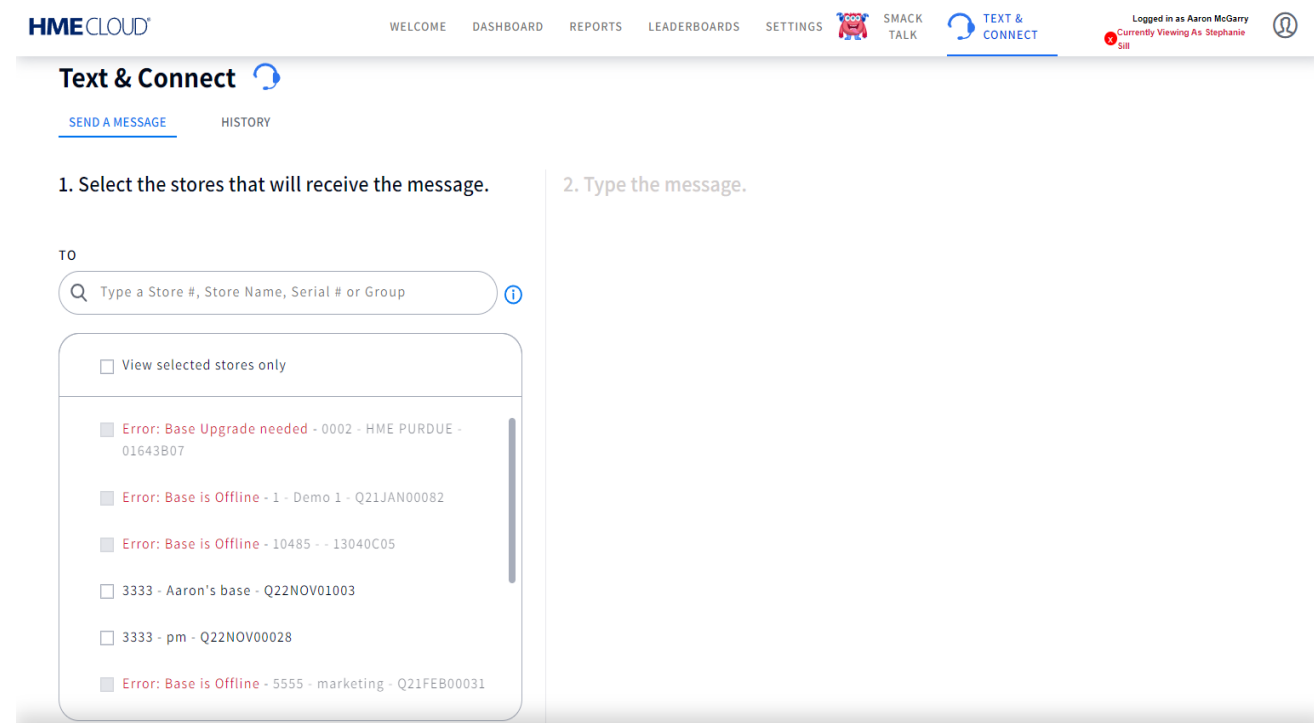

Fig. 8.13
7. This opens the Text & Connect page (Fig. 8.13). All the stores associated with your account will be displayed on the store list on the left. Base stations that are offline or in need of an upgrade will be listed in red with a grayed-out check box indicating this device cannot be selected. The example in Fig. 8.13 only shows two available options.